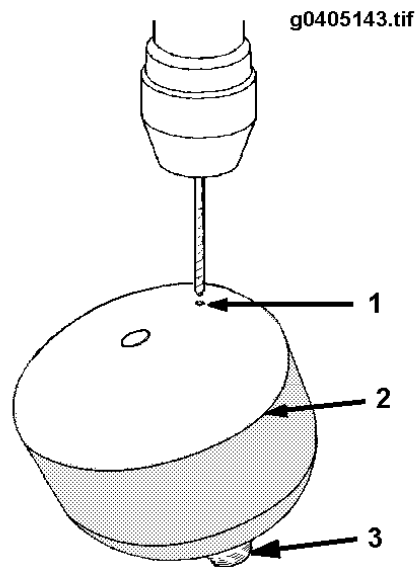

Figure 43 Orientation of Accumulator for Drilling and Disposal
**WARNING** – The appropriate safety measures must be taken when performing the following procedure. Safety goggles (not glasses) must be worn. The accumulator must be oriented correctly (see **FIGURE 43**), and securely clamped in the drill press vise to prevent it from rolling or falling. Any liquid spilled or drained from the accumulator should be treated as waste brake fluid, and must be disposed of properly. Personnel should remain a safe distance from the work area during this procedure, and/or a protective shield should be positioned to prevent any projected metal shavings from reaching the drill operator and/or nearby personnel. Failure to follow this warning could result in property damage, personal injury or death.
1. Secure the accumulator on a drill press table using a vise or clamp that will allow the accumulator to be oriented as shown in FIGURE 43. The drilling point will be on the opposite side of the welded seam from the threaded port.